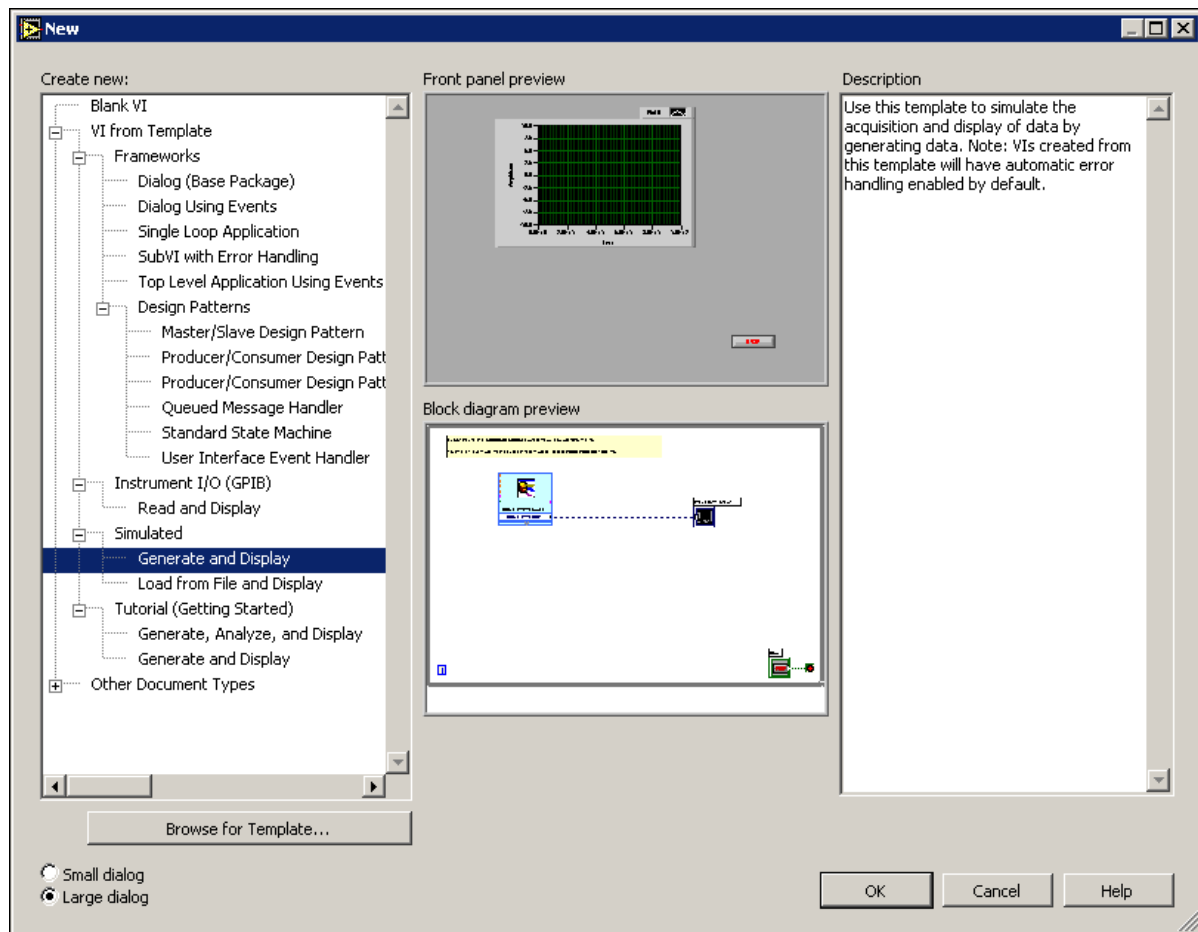

Figure 2.19
3. Select VI from Template»Tutorial (Getting Started)»Generate and Display in the Create new list. This template VI generates and displays a signal. Notice that previews of the template VI appear in the Front panel preview and the Block diagram preview sections. The Figure 2.19 shows the New dialog box and the Generate and Display template VI.